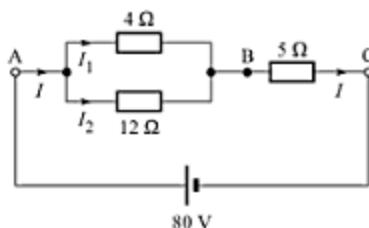

Fig. 2.35
9. Determine the voltage across and current through each resistor in the network of Fig. 2.35.